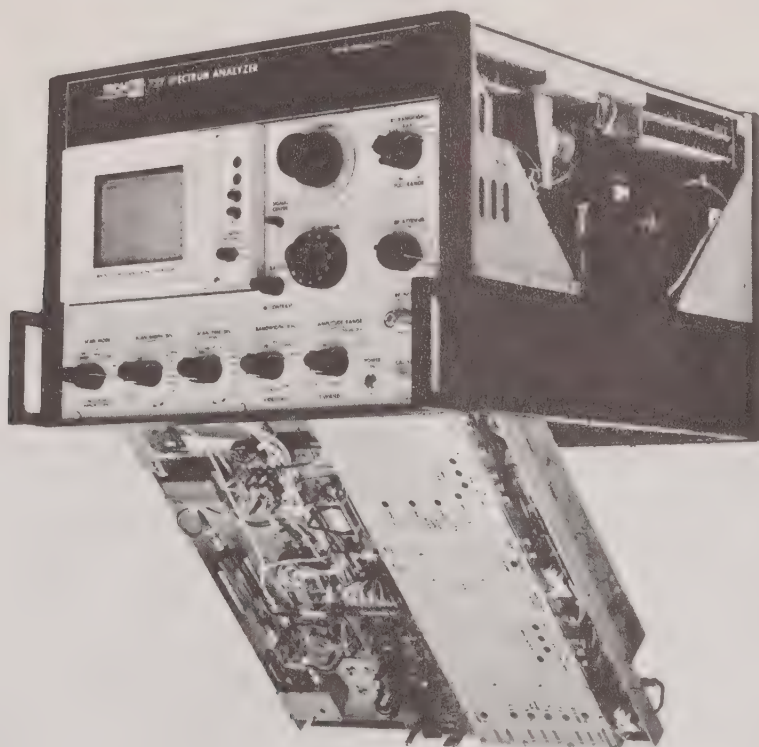

Figure 1-1. AILTECH 727 Spectrum Analyzer Subassembly Location
The AILTECH 727 Spectrum Analyzer has four principle subassemblies. These are: (1) the display module which can be independently removed through the front panel; (2) the RF deck which swings out from under the unit when the bottom cover is removed; (3) the main frame which houses most video boards, the low voltage power supply, the log IF amplifier; and (4) the front panel and harness assembly. This construction makes all subassemblies accessible to the service personnel. Figure 1-1 shows the location of the subassemblies within the instrument.